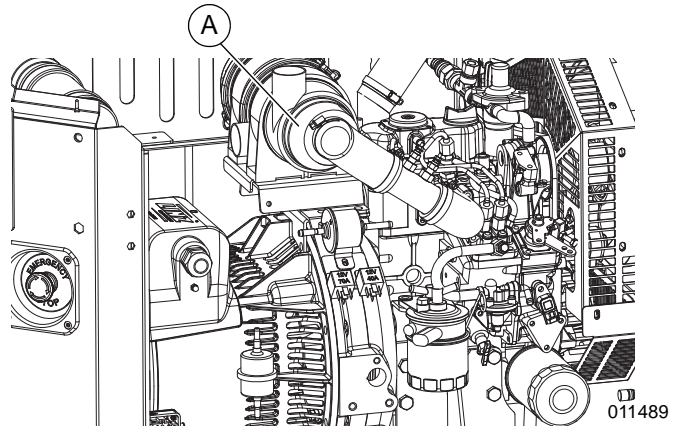

Figure 3-15. Positive Air Shutdown
See Figure 3-15. This unit may be equipped with a positive air shutdown (A) on the air intake. This device automatically stops the engine if overspeed is detected.